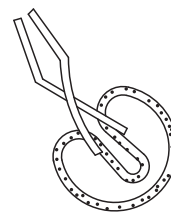

Fig. 3
- (3) When using a jig for fitting swivel seals, use a jig with round edges to avoid damaging the seals. (Fig. 3)